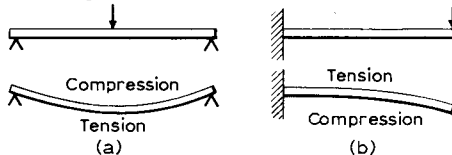
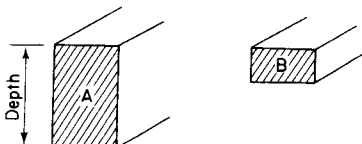

Fig. 2.4 Bending of beams
Fig. 2.5 Beam A will bend less than beam B because it has a greater depth
3. **Bending.** The beams shown in Fig. 2.4 bend under the action of forces applied to them. As shown, one edge of the beam is in tension, whilst the other is in compression. The amount of bending (or deflection) depends upon the size of the force and the dimensions of the beam. A large force will cause more deflection than a small one, whilst a deep beam will bend less than a shallow one (Fig. 2.5). The beam in Fig. 2.4 (a) is similar to a bar being turned between centres whilst in Fig. 2.4 (b) the bar is being held in a chuck. The use of steadies prevents the bar bending whilst the cut is being taken.